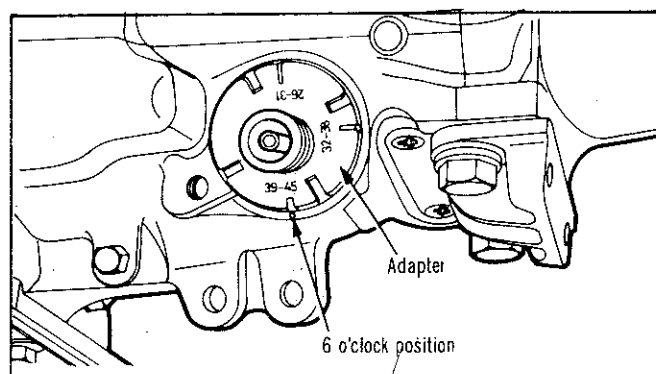
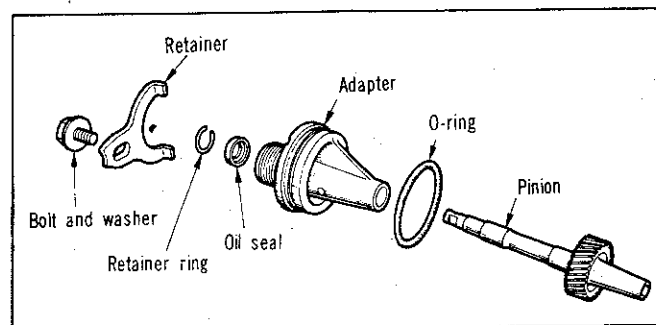
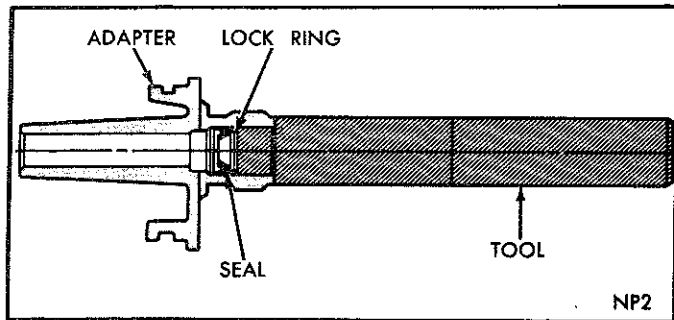
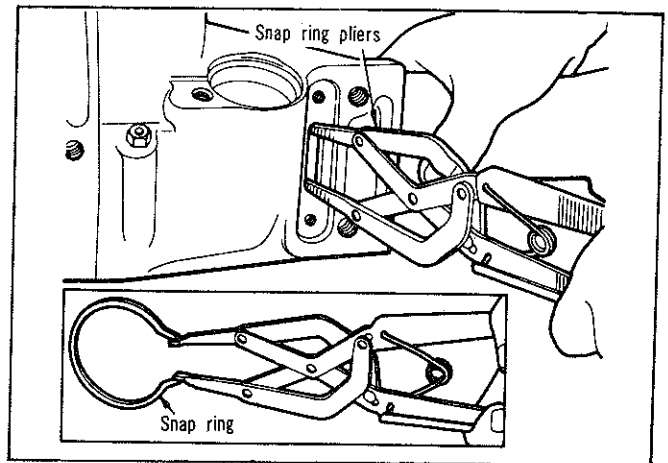

Fig. 18—Speedometer pinion and adapter installed (Retainer removed for view)
Fig. 19—Speedometer drive—disassembled
Fig. 20—Installing speedometer pinion seal
Fig. 21—Removing or installing extension housing
(1) Remove bolt and retainer securing speedometer pinion adapter in the extension housing (Fig. 18).
(2) With cable housing connected, carefully work adapter and pinion out of the extension housing.
(3) If transmission fluid is found in cable housing, replace seal in the adapter (Fig. 19). Start seal and retainer ring in the adapter, then push them into adapter with Tool E21C45B until tool bottoms (Fig. 20).
(4) Note number of gear teeth and install speedometer pinion gear into adapter (Fig. 19).
(5) Rotate the speedometer pinion gear and adapter assembly so that the number on the adapter, corresponding to the number of teeth on the gear, is in the 6 o'clock position as the assembly is installed (Fig. 18).
(6) Install retainer and bolt, with retainer tangs in adapter positioning slots. Tap adapter firmly into the extension housing and tighten retainer bolt to specification.
(1) Mark parts for reassembly then disconnect propeller shaft. Carefully pull shaft assembly out of the extension housing.
(2) Remove speedometer pinion and adapter assembly (Fig. 18). Drain approximately 2 litres (3 pints) of fluid from the transmission.
(3) Remove bolts securing extension housing to the crossmember. Raise transmission slightly with service jack, then remove centre crossmember/s and support assembly.
(4) Remove extension housing to transmission bolts.
(5) Remove access plate and gasket from extension housing. Spread large snap ring from output shaft bearing (Fig. 21).
(1) Place a new extension housing gasket on the transmission case. Position output shaft bearing retaining snap ring in extension housing. Slide extension housing on output shaft guiding the parking lock control rod knob past the parking sprag. While spreading large snap ring in housing (Fig. 21), carefully tap housing into place, then release the snap ring. Make sure snap ring is fully seated in bearing outer race ring groove.
(2) Install and tighten extension housing bolts to specification.
(3) Install gasket and access plate on the extension housing.
(4) Install centre crossmember's and rear mount assembly. Tighten retaining bolts.